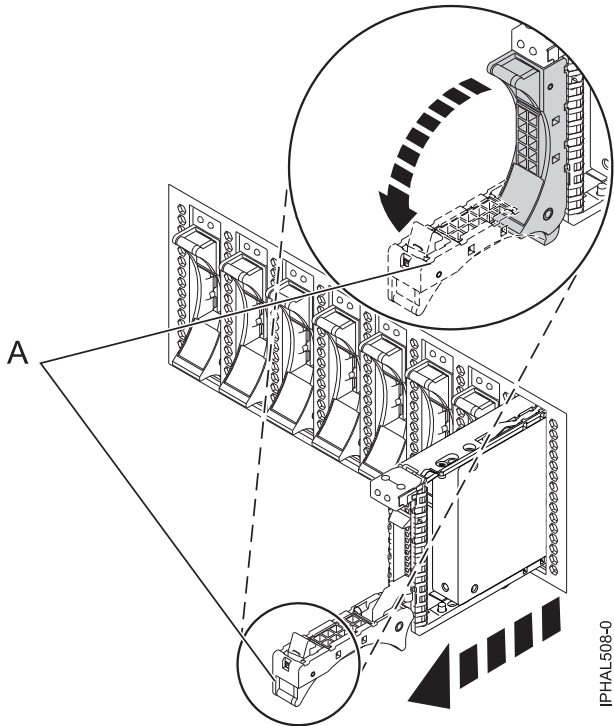

Figure 10. Removing the disk drive from the backplane
- 2) Place one hand under the disk drive and carefully pull the drive out of the system as shown in Figure 10 on page 30.